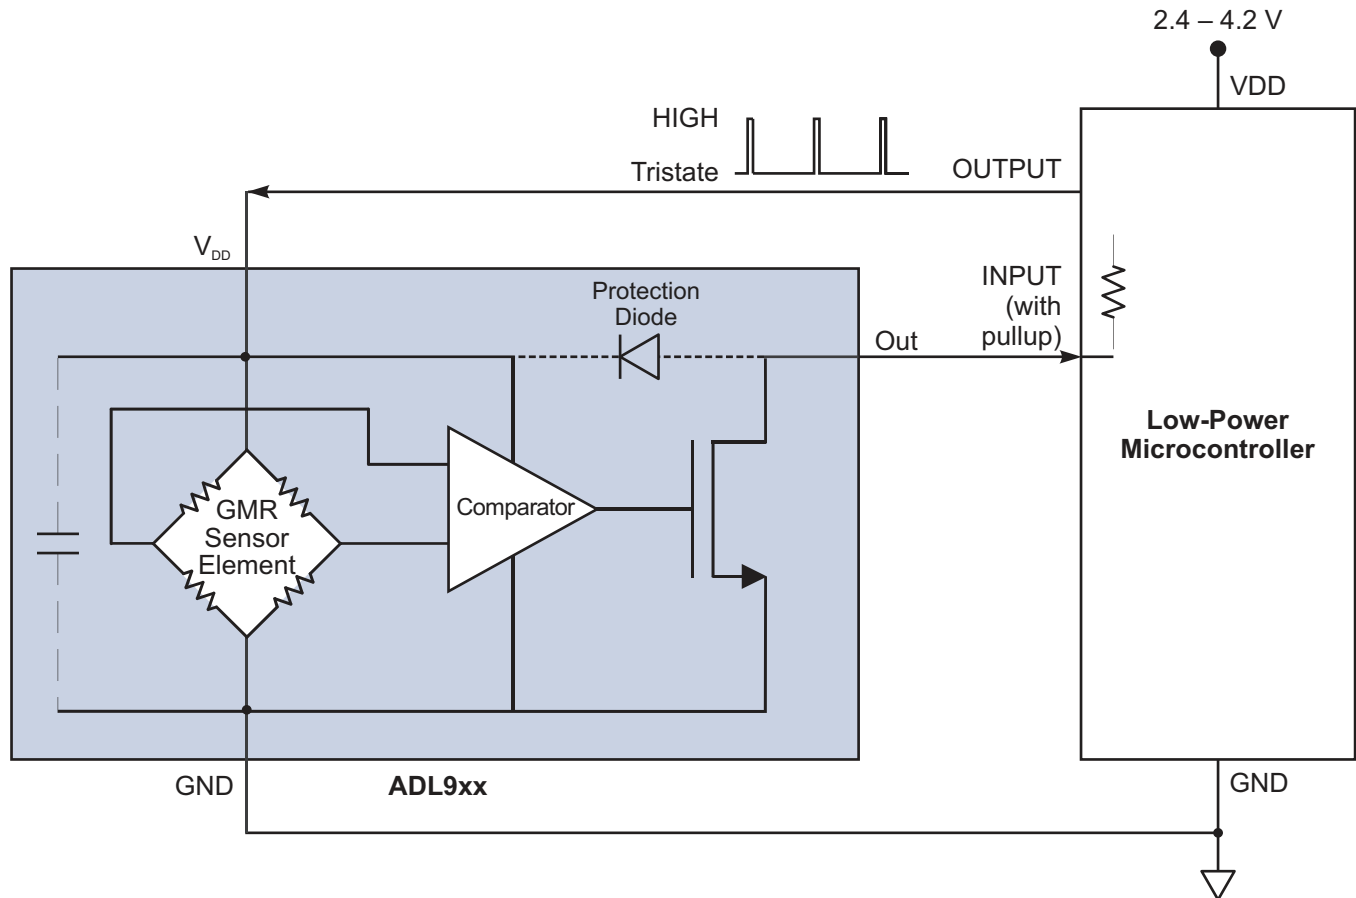

Figure 5. External duty cycling using a microcontroller.
- Updated graph of typical supply current vs. supply (p. 5; Fig. 5).